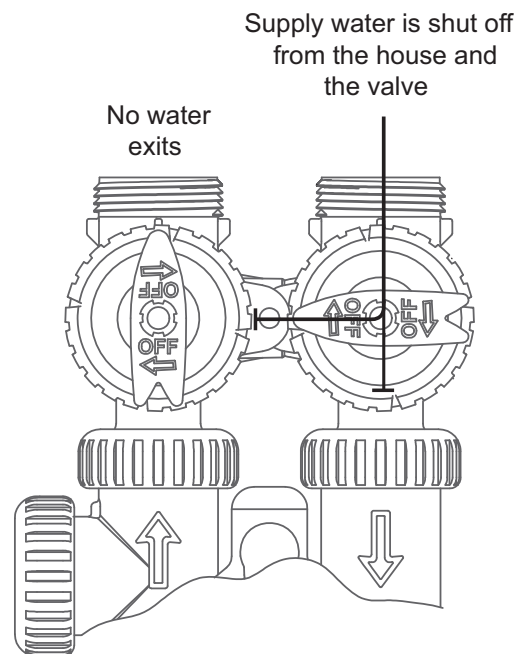

Figure 4 Shut Off Position
- Shut Off Position:** The inlet handle points to the center of the bypass valve and the outlet handle points away from the control valve. The water is shut off to the building. The water treatment system will depressurize upon opening a tap in the building. A negative pressure in the building combined with the softener being in regeneration could cause a siphoning of brine into the building. If water is available on the outlet side of the softener or filter it is an indication of water bypassing the system. Refer to Figure 4. (i.e. a plumbing cross-connection somewhere in the building).